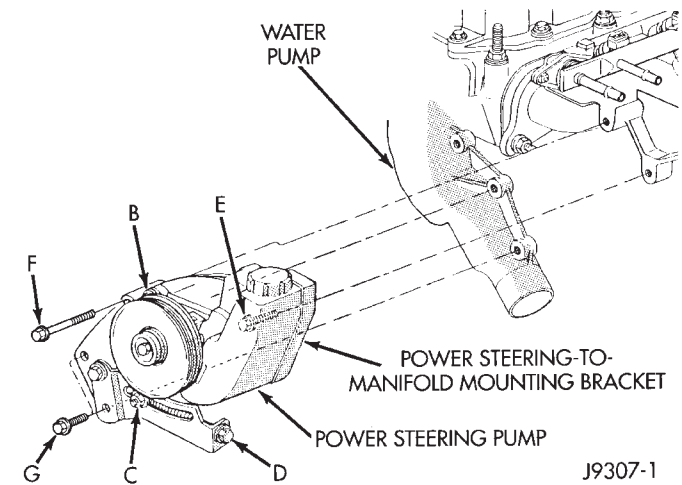

Fig. 7 Bracket Mounting Bolts—Typical
- (5) Check condition of all pulleys.
- (6) The power steering pump must be removed from its cast mounting bracket to gain access to bolt E. Bracket mounting bolt E is located behind the power steering pump (Fig. 7).
- (10) Remove bolts E, F and G (Fig. 7) and remove pump mounting bracket.
(11) Remove idler pulley mounting bolt and remove idler pulley. This must be done to gain clearance for the water pump mounted heater hose fitting when water pump is being removed. Note position of pulley spacers after removal.
(1) If pump is being replaced, install the heater hose fitting to the pump. Use a sealant on the fitting such as Mopar™ Thread Sealant With Teflon. Refer to the directions on the package.
(2) Clean the gasket mating surfaces. If the original pump is used, remove any deposits or other foreign material. Inspect the cylinder block and water pump mating surfaces for erosion or damage from cavitation.
(3) Install the gasket and water pump. The silicone bead on the gasket should be facing the water pump. Also, the gasket is installed dry. Tighten mounting bolts to 30 N·m (22 ft. lbs.) torque. Rotate the shaft by hand to be sure it turns freely.
(4) Connect the radiator and heater hoses to the water pump.
(5) Position water pump pulley to water pump hub.
(6) If equipped with a water pump mounted fan, install fan and four nuts to water pump hub. If not equipped with a water pump mounted fan, install four pump hub bolts. Tighten bolts (or nuts) to 27 N·m (20 ft. lbs.) torque.
(7) Position power steering pump bracket to engine. Install bolts E, F and G (Fig. 7). Tighten bolts F and G to 38 N·m (28 ft. lbs.) torque. Tighten bolt E to 27 N·m (20 ft. lbs.) torque.